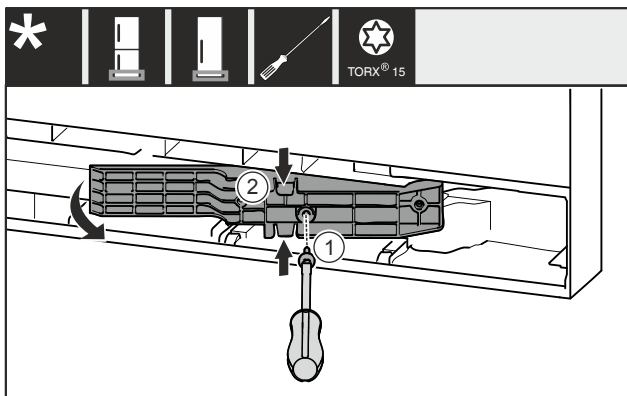

Fig. 20*
- ▶ Remove the screw Fig. 20 (1)*
- ▶ Gently press the top and bottom of the adapter piece Fig. 20 (2) together and pull it out.*